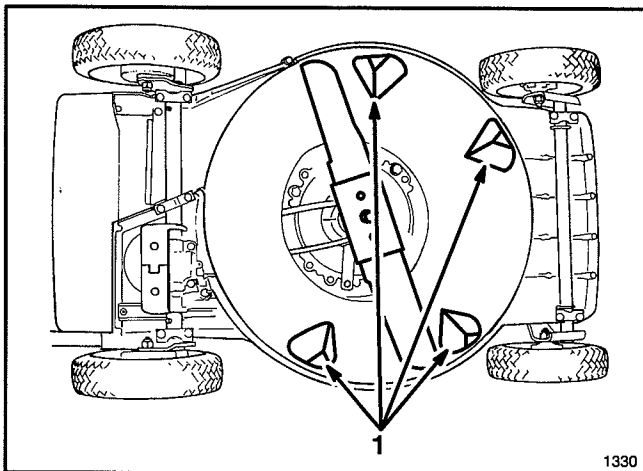

Figure 30
Keep underside of mower housing clean. Be especially careful to keep kickers free of debris (Fig. 30).
6. Tip mower on its left side (Fig. 30).